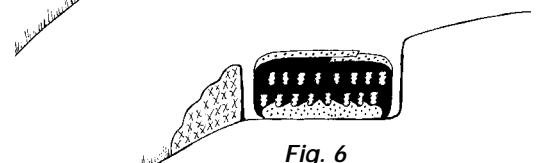

Fig. 6
6. Fold the fabric over the units, making sure there is overlap. (See Fig. 6)